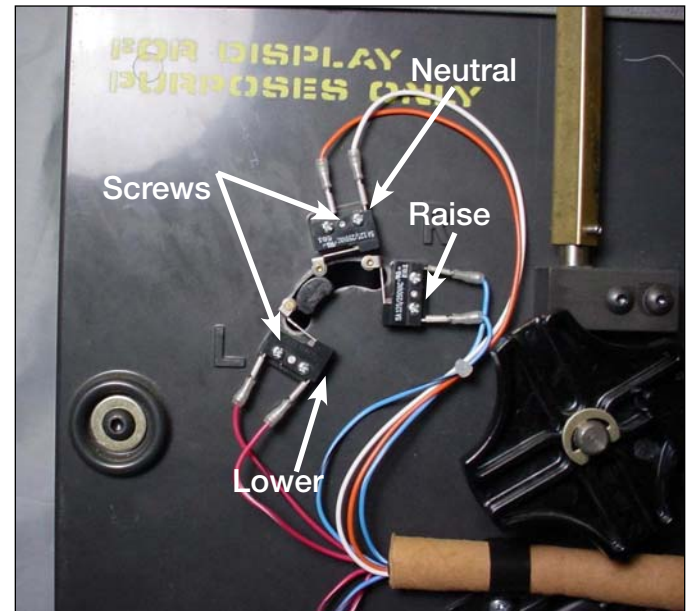

Figure 10.
- After removing the tap changer from the regulator assembly, use a Phillips head one point screwdriver too loosen and remove the six screws mounting the Reversing Lower, Raise and Neutral switch located in the upper left corner of the tap changer assembly. See Figure 10.